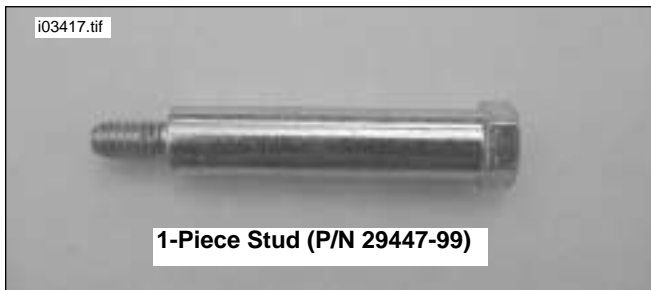

Figure 1. Replace mounting studs if necessary
3. See Figure 1. If your Screamin' Eagle High Flow Air Cleaner is equipped with the 1-piece studs, remove the 1-piece studs and replace with new 2-piece studs (P/N 29447-99A). Torque studs to 3-5 ft-lbs (4.1-6.8 Nm).
4. Reposition the filter element over the mounting studs. Position the adapter plate (1) over the filter element in the approximate orientation shown on the Service Parts illustration. Attach the adapter plate and the filter element to the mounting studs using the two buttonhead screws (5) provided in the kit. Reuse the screw(s) removed in Step 2 to complete the filter element installation. Torque all screws to 3-5 ft-lbs (4.1-6.8 Nm).
5. Insert the oval-shaped boss on the rubber block (2) into the adapter plate (1). Flat edge of rubber block (2) faces rearward.
6. Remove the film from the adhesive-backed spacer (3).
7. Position the spacer (3) over the inside surface of the air cleaner cover (not included) and align the I.D. of the spacer (3) with the cover mounting hole.
8. Adhere the spacer (3) to the inside of the cover.
9. Install the cover using the screw (4) provided in air cleaner cover adapter kit. Tighten to 3-5 ft-lbs (4.1-6.8 Nm).